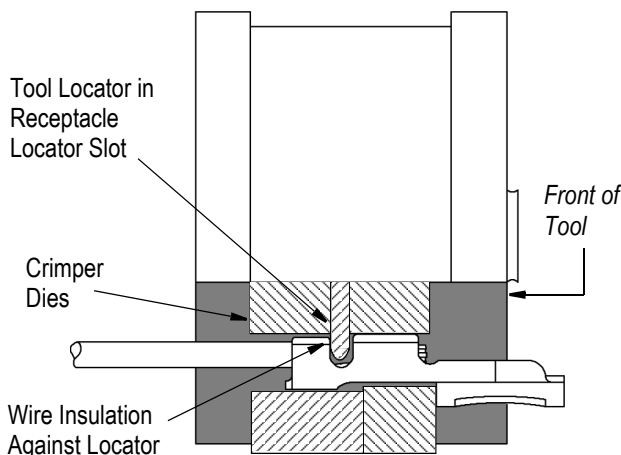

Figure 3
3. Insert the receptacle into the crimping chamber with the "U" shape of the insulation barrel facing the crimper dies. Position the receptacle so that the tool locator enters the locator slot of the receptacle. See Figure 3.
5. Insert the stripped wire into the insulation barrel until the wire butts against the locator wire stop. See Figure 3.